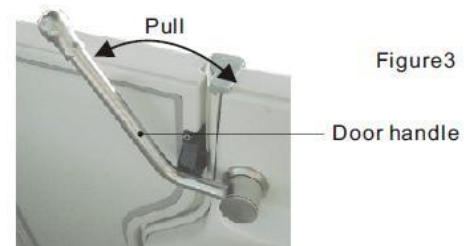

Figure 3
- If your tub had the locking system in figure 3, please follow the instruction below to open and close it
- Before entering the tub, hold door handle with the safety button pressed down and push it towards the door hinge to open the door (figure 3)